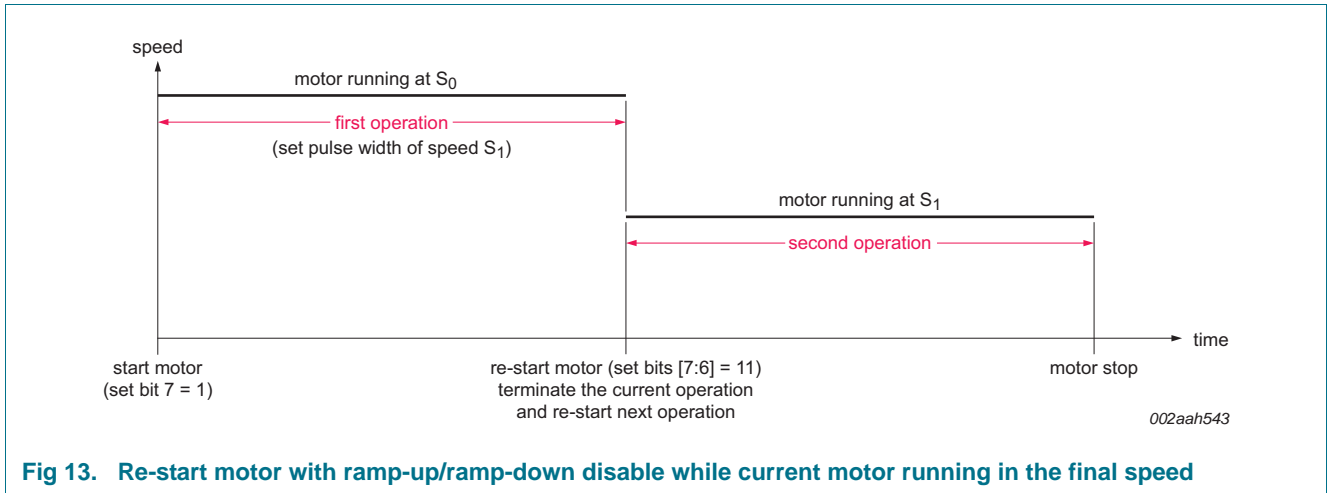
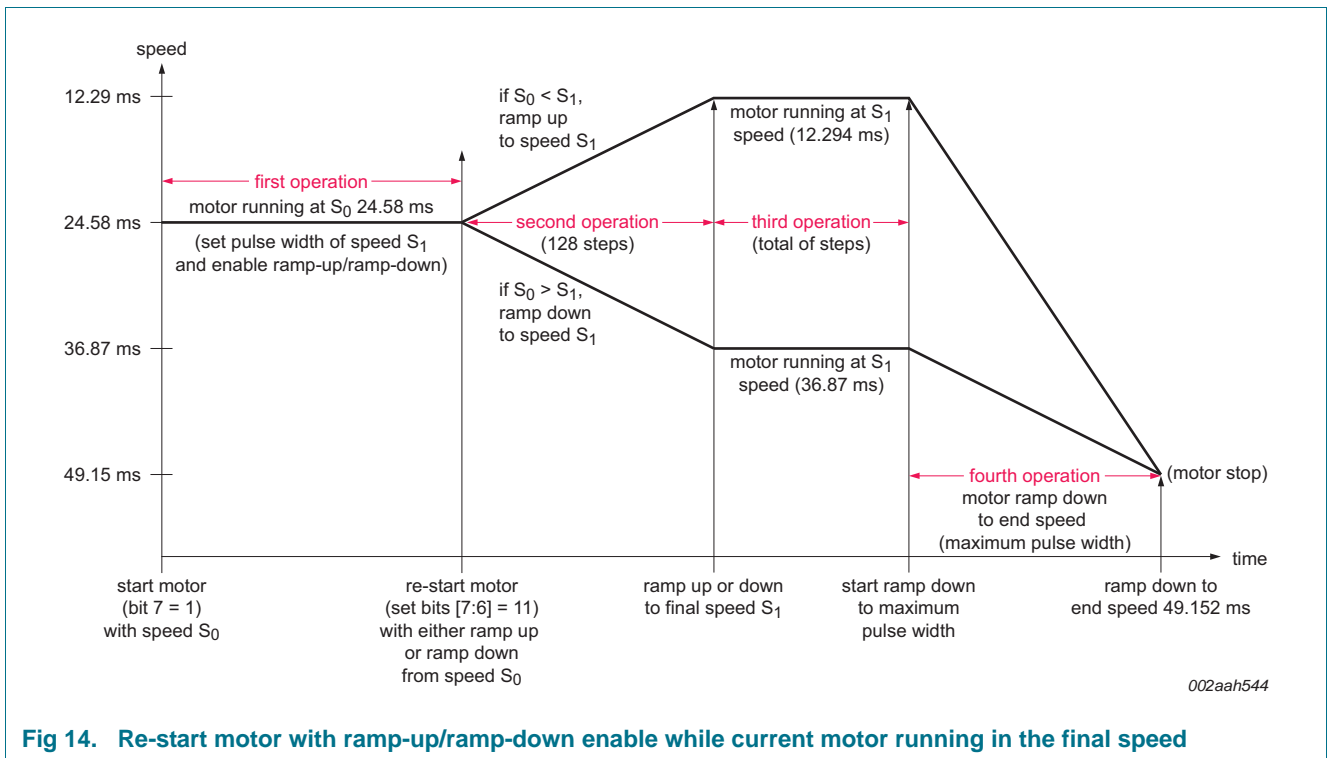

Fig 13. Re-start motor with ramp-up/ramp-down disable while current motor running in the final speed
Fig 14. Re-start motor with ramp-up/ramp-down enable while current motor running in the final speed
- Set re-start motor bit to '1' while the current motor is running (bit 7 = 1) in the final (top) or target speed ( $S_0$ ), the re-start motor action will take place immediately based on the new motor parameter registers setting. If both ramp-up/ramp-down are disabled, it will change to new speed of  $S_1$  immediately as shown in Figure 13. If both ramp-up/ramp-down are enabled, it will go to new speed of  $S_1$  with either ramp up ( $S_0 < S_1$ ) or ramp down ( $S_0 > S_1$ ) as shown in Figure 14.